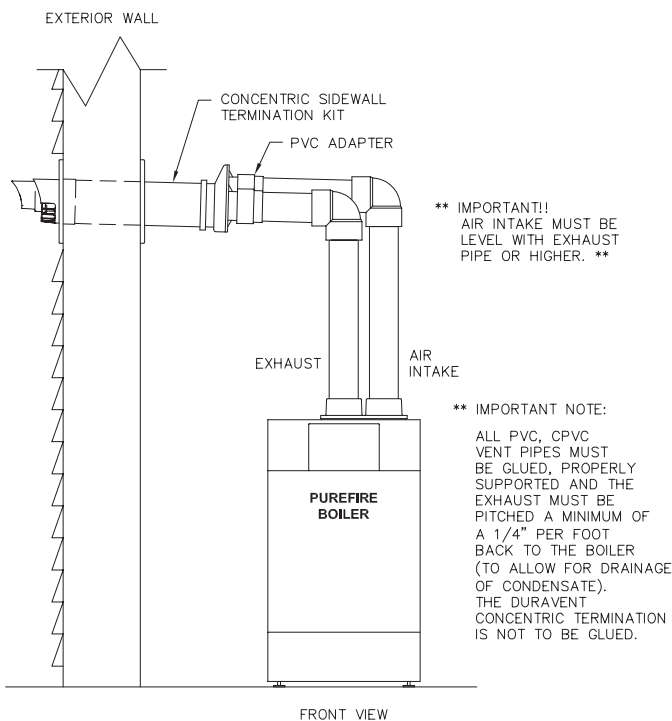

Figure 3.7: Optional Concentric Vent Kit Installation
- d. Figures 3.7 shows an approved sidewall vent configuration using an optional concentric vent termination kit. 3" (54498) or 4" (54499).